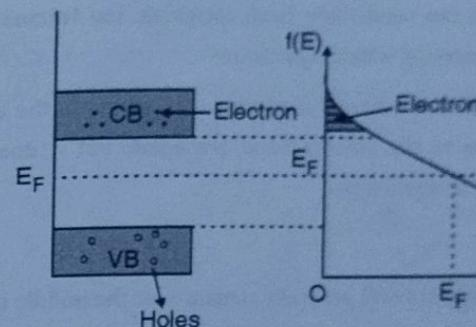

Fig. 1.1.4 : Fermi-Dirac distribution of semiconductors
1.1.4(B) Fermi Level in Semiconductor
- At normal temperature, a significant number of electrons from Valence band (VB) leaving behind same number of holes.
- Therefore $f(E)$ has non-zero probability above Fermi level and below E_F as shown in Fig. 1.1.4.